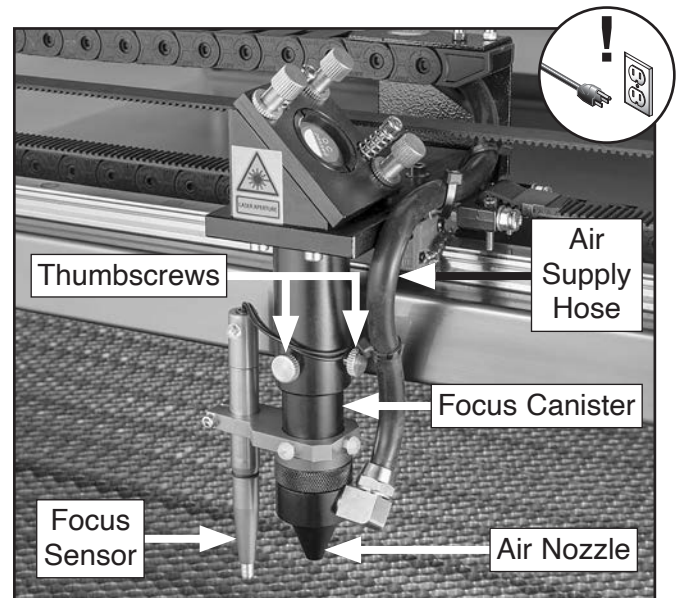

Figure 121. Laser head assembly components.
3. Disconnect air supply hose, loosen air nozzle, and set aside (see **Figure 121**).
4. Loosen thumbscrews and remove focus canister and focus sensor (see **Figure 121**).